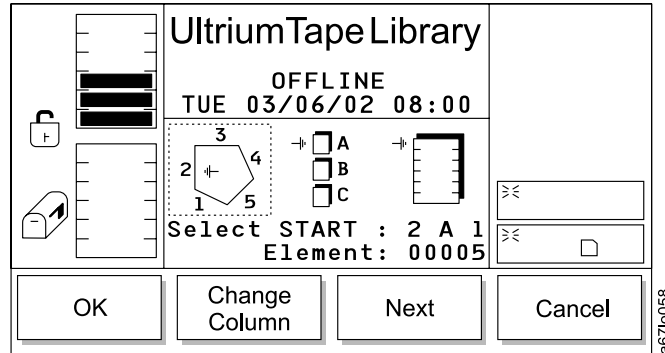

Figure 118. Scan Barcode Dialog
- If **Scan Barcode** is selected, the Scan Barcode Dialog displays (see Figure 118 on page 111).
- If **Next** is selected, the current source parameter changes from slot to column as shown in the Scan Barcode Dialog (see Figure 118 on page 111).
- If **Cancel** is selected, the Scan Barcode Dialog displays (see Figure 118 on page 111).